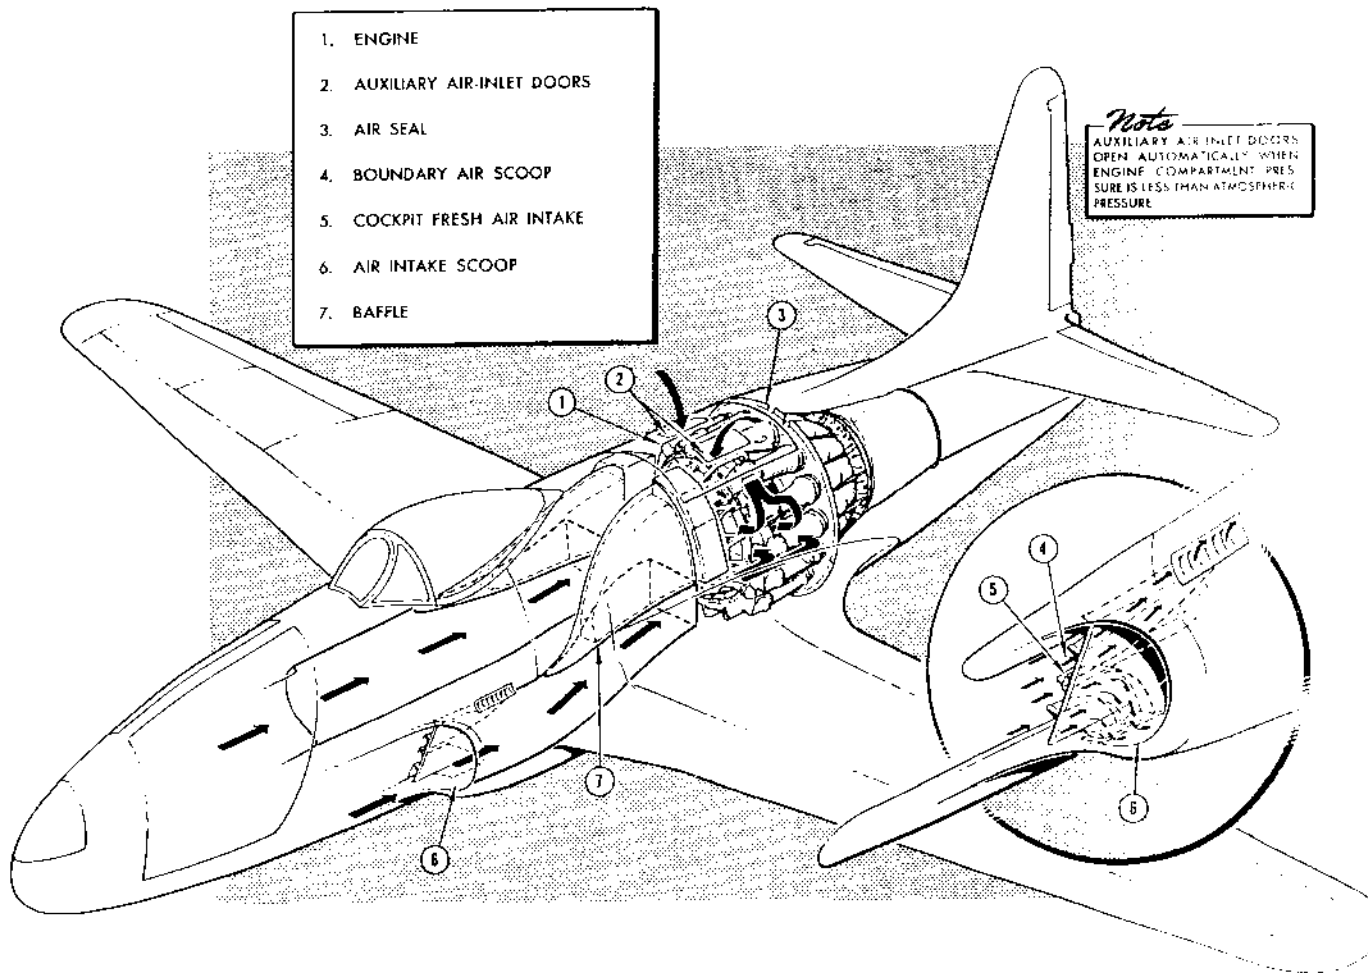

Figure 94 — Engine Air Intake System
9. AIR INTAKE SYSTEM.*(See figure 94.)*
b. INTAKE DUCT. (See figure 94.)—The intake ducts are constructed of aluminum alloy sheet metal, with a beaded outer skin. Hat-section stiffeners on the inboard sides of the ducts serve to strengthen the structure. Each duct has a curved baffle located approximately midway between the top and bottom of the aft end of the duct.